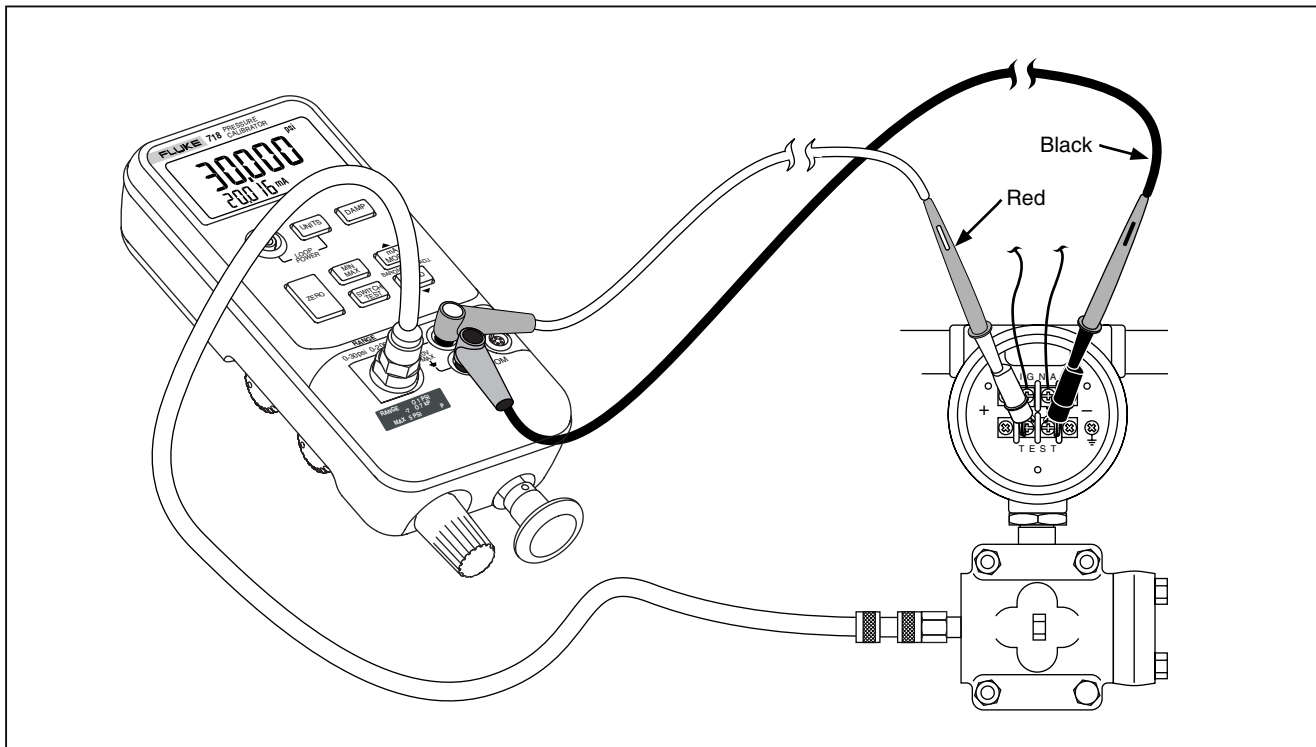
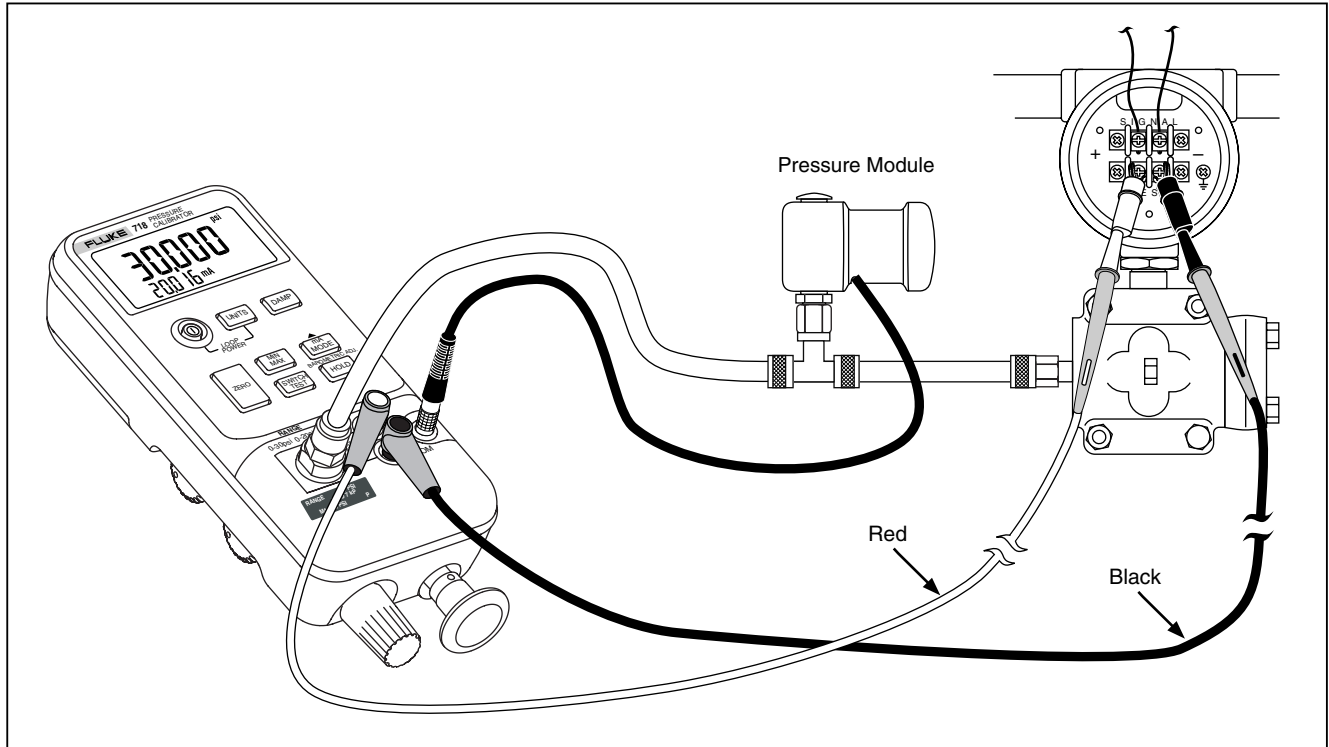

Figure 4. Internal Pressure Sensor with Internal Pump
Figure 5. Pressure Module with Internal Pump
The preferred use for the internal pump is shown in Figure 4, where the Calibrator displays pressure measured with the internal sensor and provided by the internal pump.
The internal pump can also be used with certain Fluke 700 Series Pressure Modules. In this case, pressure measured by the Pressure Module is displayed by the Calibrator. Appropriate pressure modules for each Calibrator model are identified in Table 6 . Figure 5 shows the internal pump being used with a pressure module.
2. Connect the pressure transmitter to the Calibrator internal sensor as shown in Figure 4 (for internal pressure sensor measurements) or Figure 5 (for pressure module measurements.)